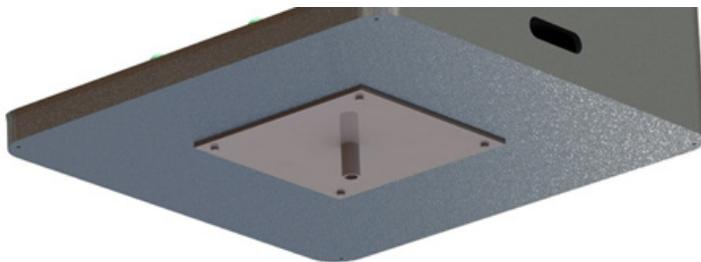

Figure 10 – Connector-Frame Base connection
With the help of a **screwdriver** and 4 screws (23), fix the funnel (17) to the bottom frame, figure 10.